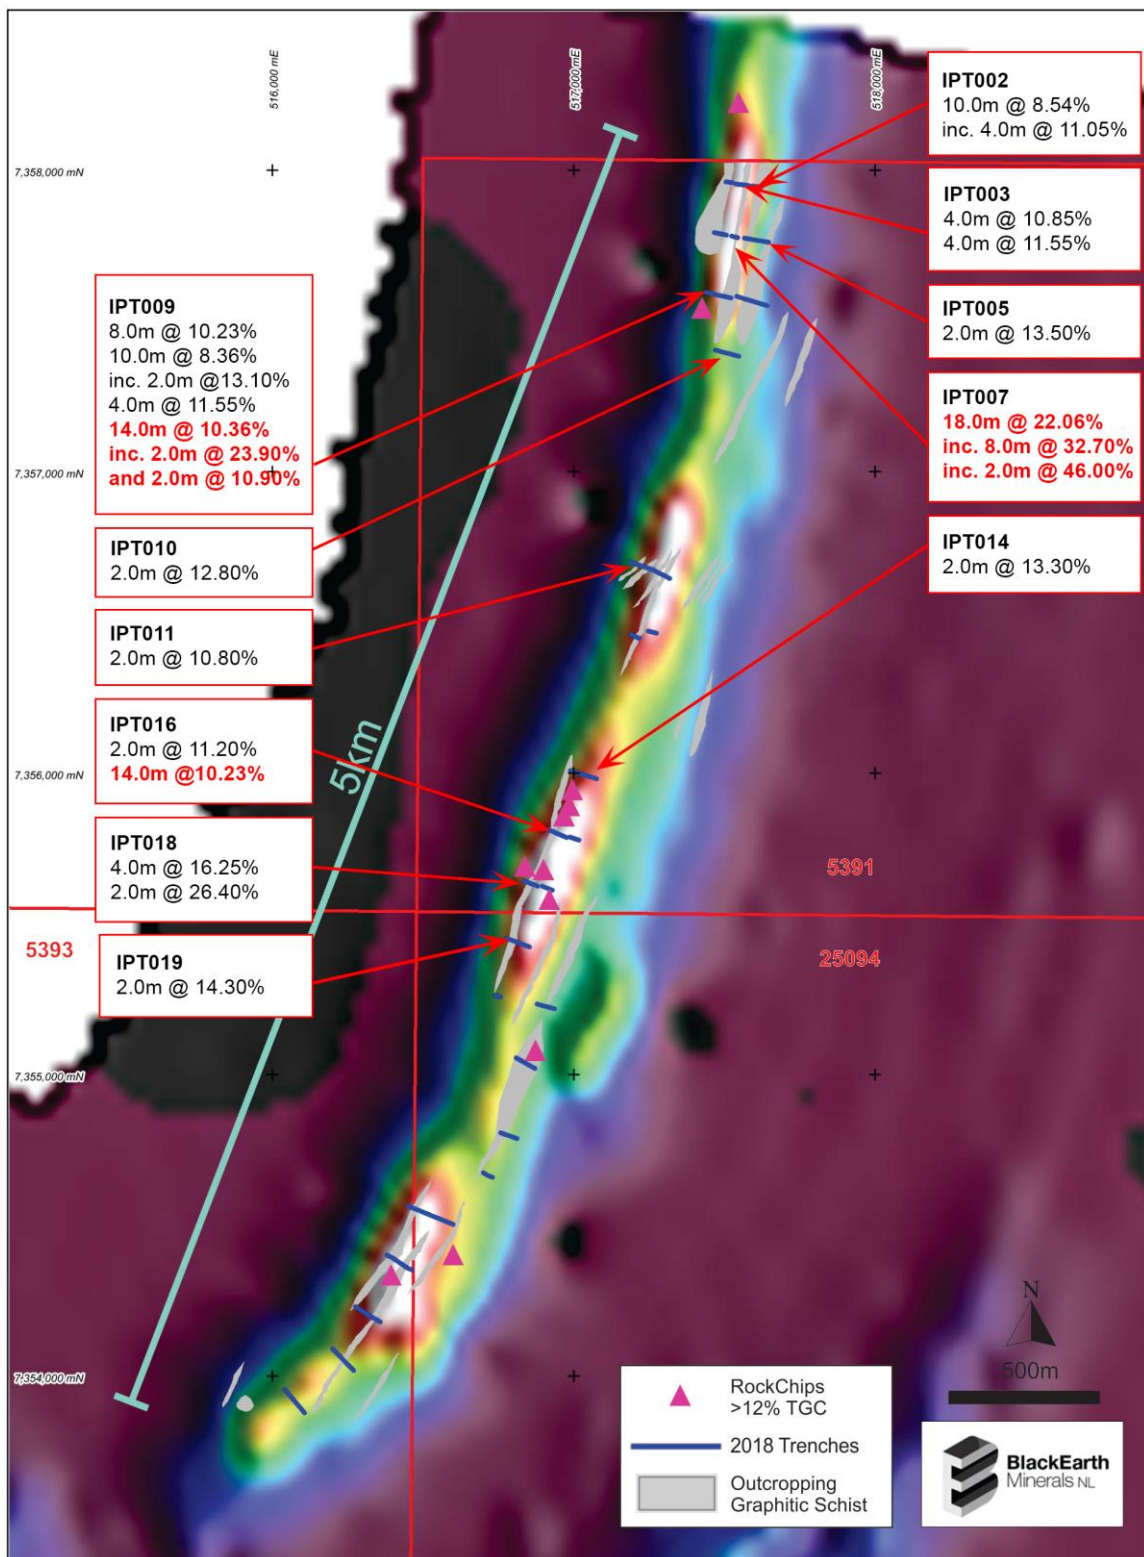

Figure 2 – Ianapera Graphite Project – 2018 Trenching Results – VTEM Imagery
- 2) The trench results were achieved from the third electro-magnetic anomaly (see Figure 2), and broad widths of mineralisation were intersected including 14.0m @ 10.23% TGC (IPT016) and also some relatively thin zones of exceptional high-grade mineralisation, such as 4.0m @ 16.25% and 2.0m @ 26.40% TGC (IPT018).
To date, results have been received from the northern half of the trend and the Company expects to receive and update the market regarding the remaining assay results over the coming weeks. It should be noted that all significant results are depicted within Figure 2 and reported within Table 1.
The potential of the Ianapera Graphite Project's mineral system can be visualised in early-time (ch08) airborne electro-magnetic imagery (Figure 2). A continuous 5km long conductive trend outlines the interpreted zone of mineralisation. Within this extensive mineralised trend, there are four zones of higher conductivity that are clearly visible and are interpreted as likely zones of high-grade mineralisation. These intense anomalies were targeted during this trenching program and previous reconnaissance exploration undertaken by the BEM technical team which has identified numerous horizons of graphite mineralisation and multiple high-grade rock-chips along the whole conductive trend. This has led to the Company's belief that a large graphite mineral system exists with the potential to host multiple high-grade graphite deposits.